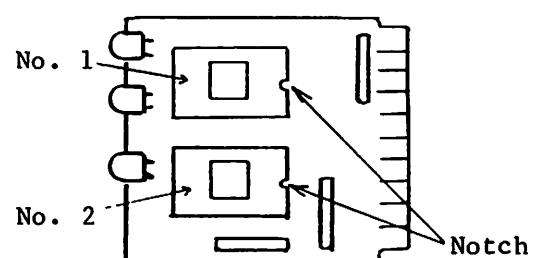

Fig. 13.3
- (9) Optionally available PROM cassette for memory expansion should be installed as shown in Fig. 13.3.